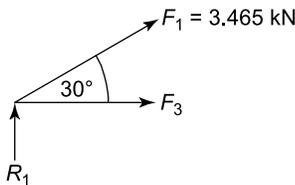

Figure 6.32
**Consider next joint (2)**, as this joint now has two or less unknown forces; see Figure 6.32.